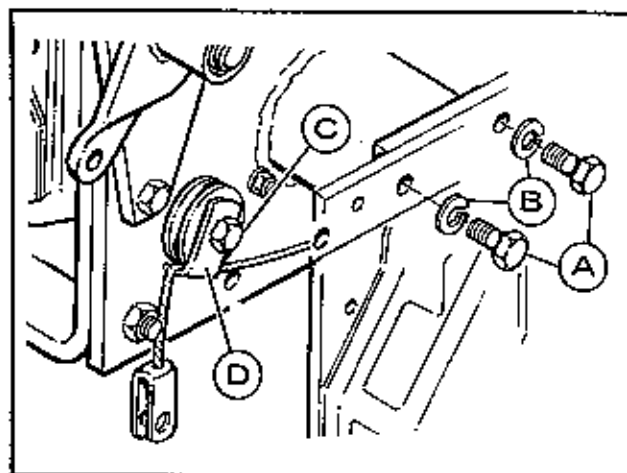
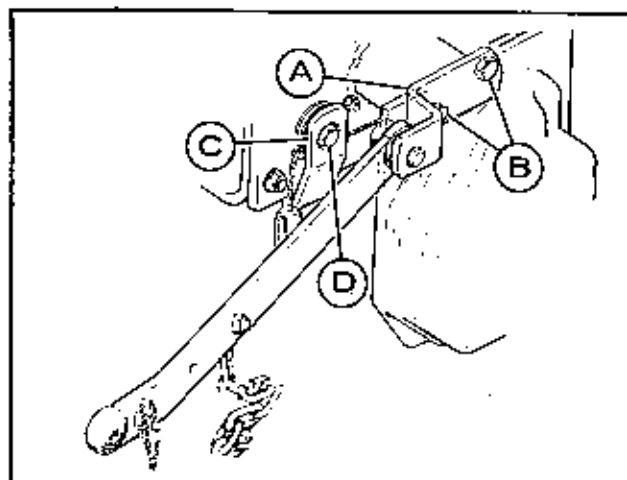

FIGURE 5
FIGURE 6
10. See figure 5. Remove the two capscrews (A) and lock washers (B) from the tractor frame as shown.
11. See figure 6. Place the right draft arm assembly (A) in position and secure it using two of the new 1/2"-13 x 2" lg. capscrews (B) included with the 3 point hitch. Use the two lock washers (figure 5, item B) removed in step 10. Torque the capscrews to 75 foot pounds.
13. See figure 5. Remove nut C and cable stop D.
14. See figure 6. Install the new rub bar assembly, right hand (C) being sure the lift cable is in place between the pulley and the cable stop. Install nut (D) and torque to 50 foot pounds.